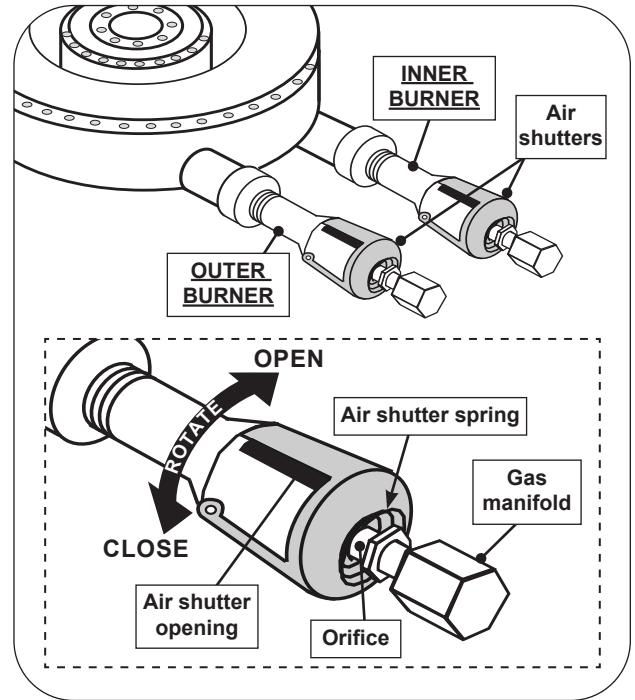

Fig. 43-1 Power burner air shutter adjustment detail
1. To adjust the air shutters, rotate the shutters to open or close them. See Fig. 43-1 for details.